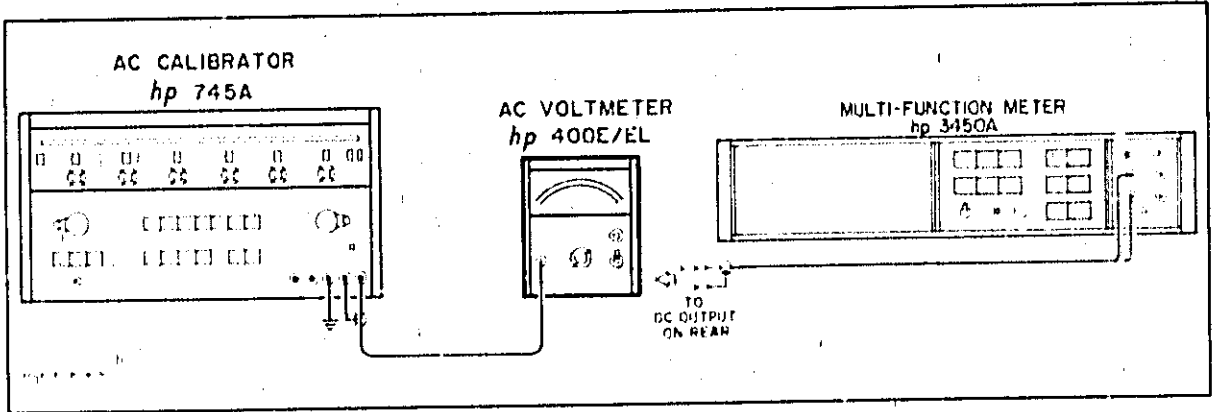

Figure 5-1. Accuracy Test Setup
5-12. The test setup in Figure 5-1 uses the 745A AC Calibrator System. This calibrator can produce any voltage level from 0.1mV to 100 volts in a seven digit readout for frequencies from 10Hz to 110kHz. The accuracy is from 0.022% to 0.205%. The 746A Amplifier can be used for voltages above 100 volts with the same accuracy.
- b. Connect the test setup as shown in Figure 5-1. Set the 745A SENSE switch to LOCAL, or if more accuracy is desired place the SENSE switch to REMOTE and connect the sense terminals to the input of the 400E/EL.